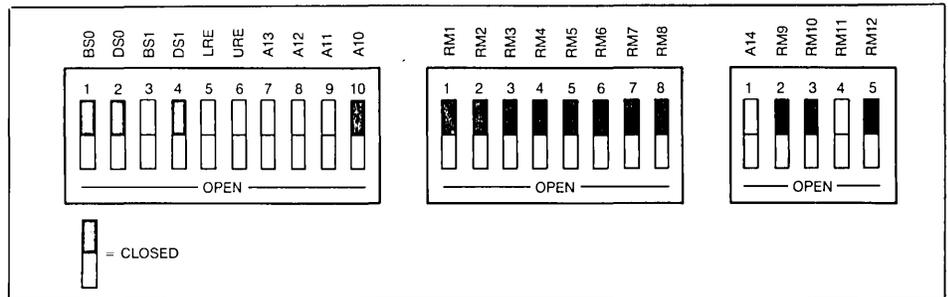

Figure 3-34. Control Memory PCA Strapping for 2642A
**PROCEDURE** ..... Strapping the Control Memory PCA consists of configuring the switches as shown in figure 3-34.